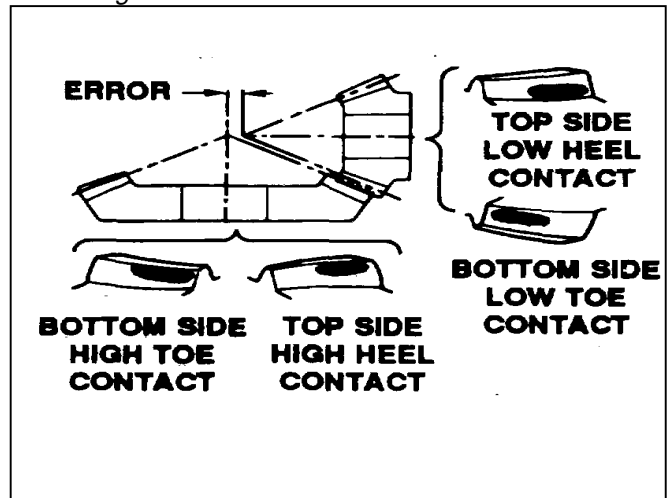

Figure 2-2. Backlash Too Large.
- 15 Repeat steps 4 thru 13 if wear pattern is not correct (fig. 2-2 and 2-3). If wear pattern cannot be reached through proper shimming, repair generator drive (p 2-90).